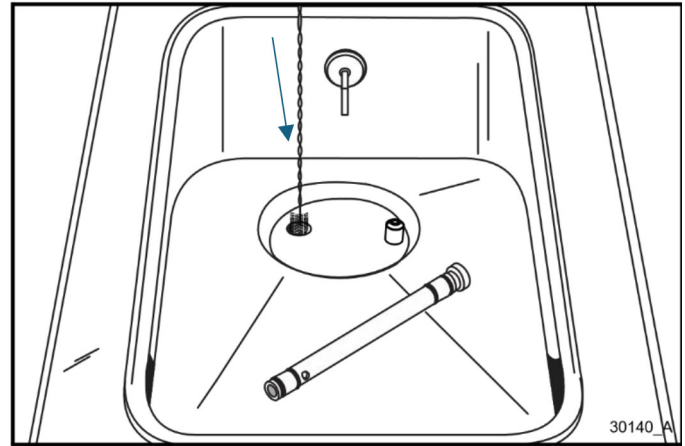

Figure 5-11
4. While solution is flowing into the freezing cylinder, brush-clean the mix hopper making sure to brush the mix level sensing probe, the mix inlet hole, and the feed tube. (Figure 5-11.)